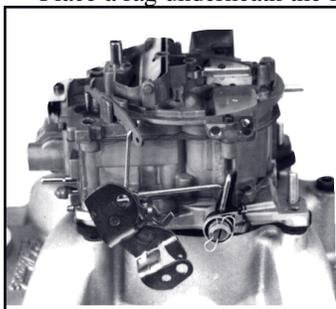

Figure 1- Throttle arm of typical Q-Jet carburetor
4. Disconnect throttle linkage, kickdown linkage (certain automatic transmission applications only), cruise control (if equipped) and any return springs if present. **NOTE:** Check carefully for the precise location of all these linkages and return springs. You may want to mark them with masking tape for easy reference. Compare throttle arm of your new carburetor with the old one to be sure that all required linkages will hook up. Ball stud is usually removable and must be installed in the proper location (see Figure 1).